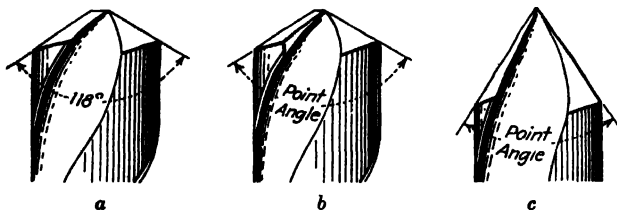

Fig. 8-28.
**Drill Points for Different Materials.** The point angles of twist drills vary for different materials from 60 to 150 deg. with about 118 deg. for average work (see Fig. 8-28). The Morse Twist Drill and Machine Company, after many experiments with different angles of points in various grades of materials, recommend the following (refer to Fig. 8-28):